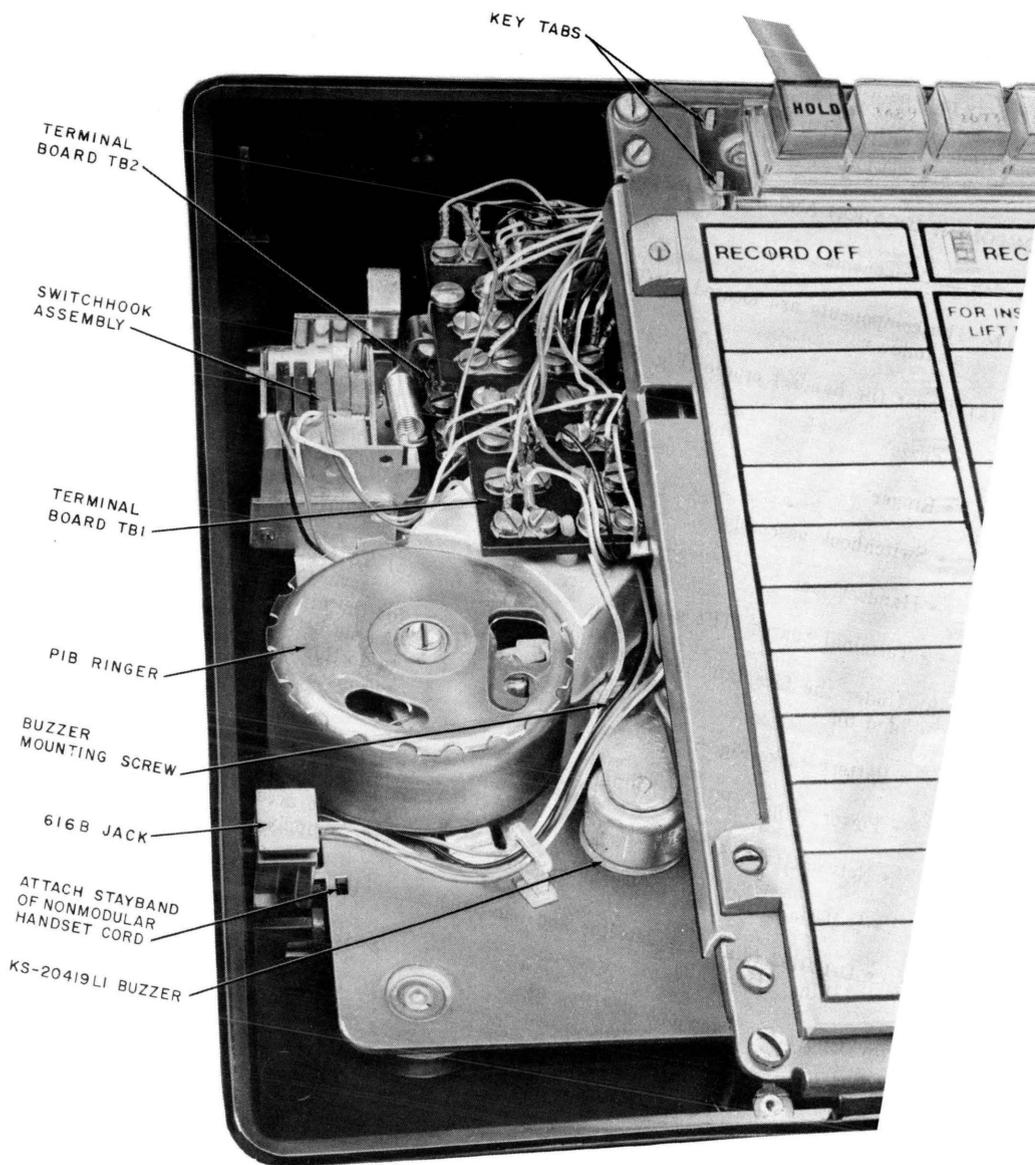

Fig. 3—Telephone Set With Faceplate, Handset and Handset Cradle Removed
- (a) Under the handset cradle (Fig. 3):